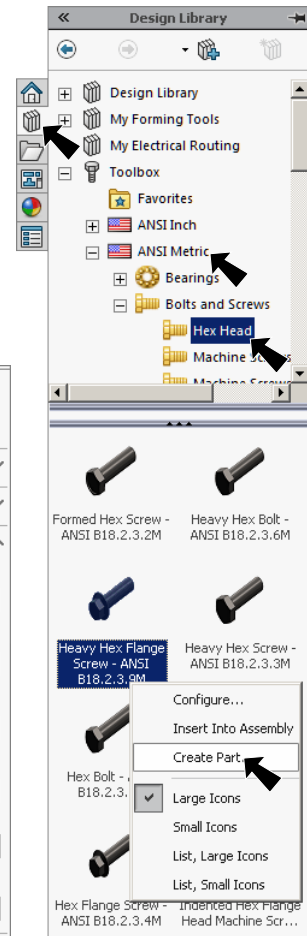

Fig. 6
Step 1. Click the **Design Library** tab  in Task Pane, **Fig. 6**.
Step 3. In the lower pane, **right click Heavy Hex Flange Screw** and click **Create Part** from menu, **Fig. 6**.